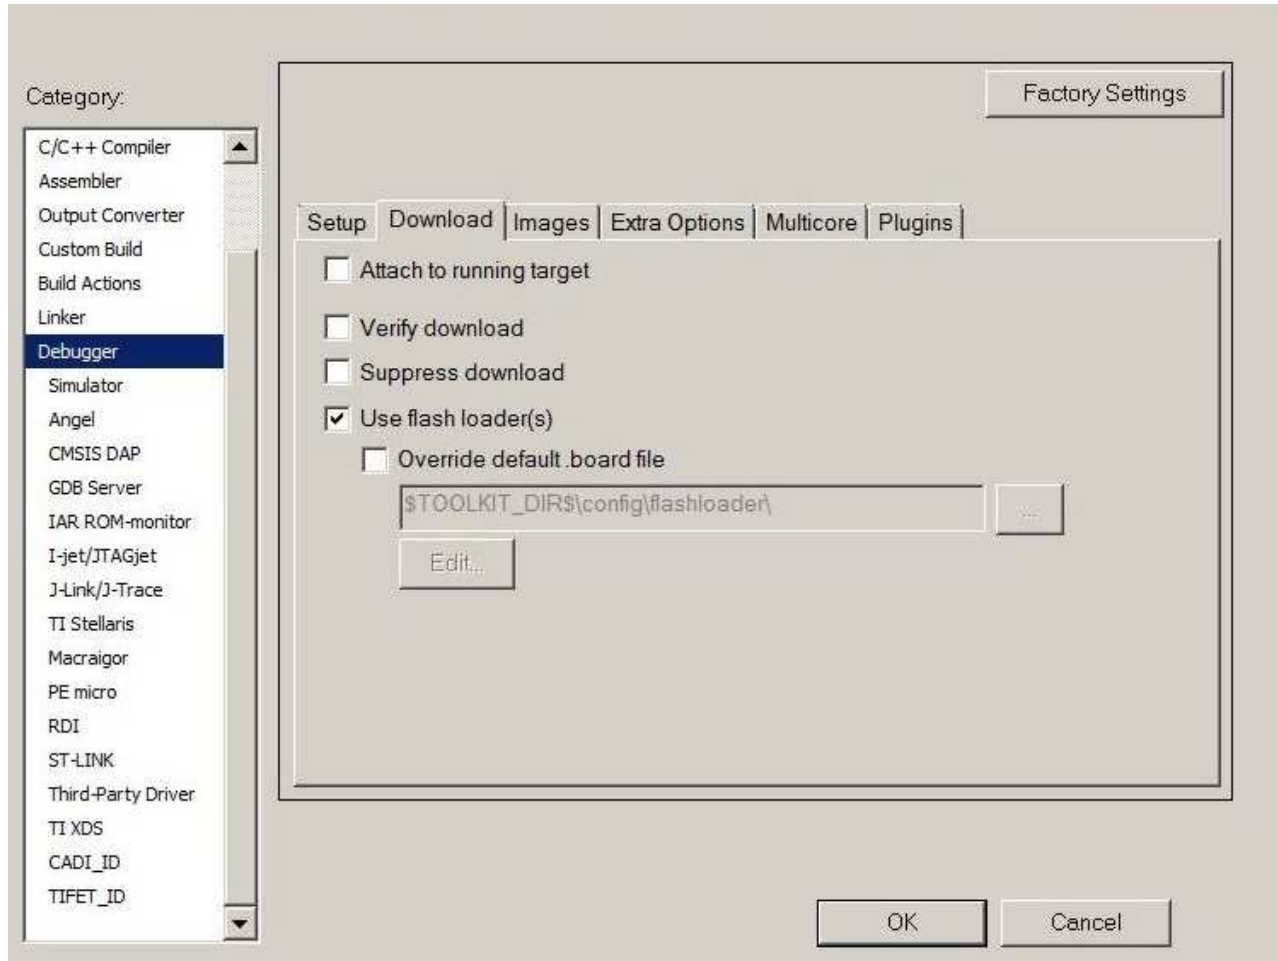

Figure 32. IAR Debugger Settings
3. Check the Use flash loader(s) checkbox in the Debugger → Download tab (see Figure 32).